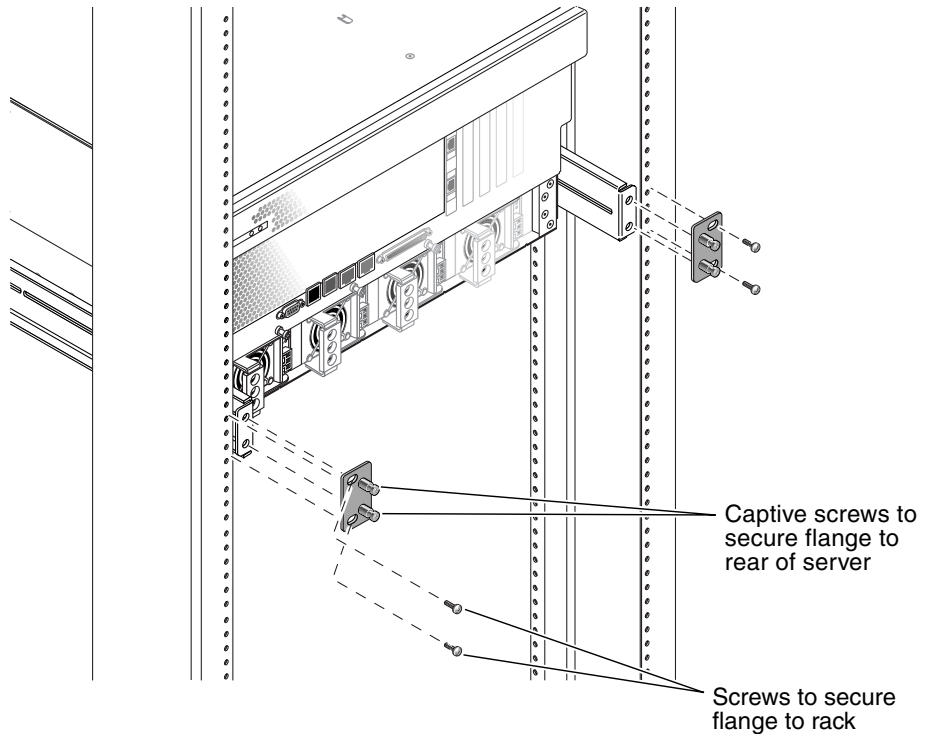

FIGURE 3-5 Securing the Rear of the Server to the Rack
9. At the rear of the rack, use the two captive screws to secure the two rear mount flanges to the rear mount support brackets that are attached to the server (FIGURE 3-5).
10. Using two screws for each rear mount support bracket, secure the rear mount support brackets to the rear of the rack (FIGURE 3-5).